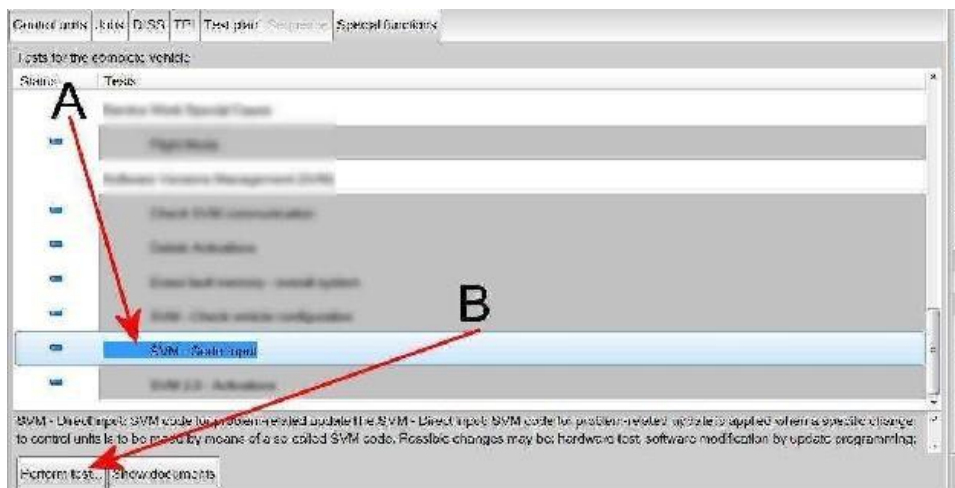

Figure 1
- Because of the highest transmission stability you **MUST** use the diagnosis interface VAS 6154 (WiFi diagnostic tool) **ONLY** in USB operation or the cable-connected VAS 5055 for the reprogramming (updating) of control units. If these units are not available, the diagnosis interface VAS 5054 (A) can also be used in USB mode
1) Referring to Figure 1 - Within the Special functions tab - Select SVM - Code Input (Point A)